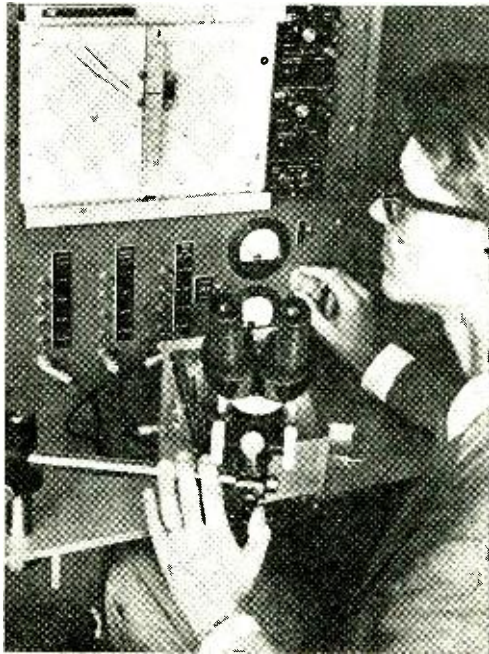

Fig. 1. Inventor John A. Copeland, Bell Telephone Laboratories, uses new Profilometer to plot the densities of impurities in a semiconductor wafer.
**B**BETTER QUALITY semiconductor devices at lower prices may result from the use of a new type of production test instrument developed at Bell Telephone Laboratories. Dubbed the "Profilometer," the new instrument was invented by Bell scientist John A. Copeland (Fig. 1) and is not only capable of much faster and more accurate tests than earlier machines, but costs only a fraction as much to build and operate.
nals are picked up by a pair of modified short-wave receivers and converted, after amplification, into d.c. signals large enough to operate an X-Y recorder. A continuous curve is plotted showing the impurity densities at all depths within the wafer. A typical graph can be seen in Fig. 1. Impurity densities through the wafer can be plotted at each point where a metal dot has been deposited.